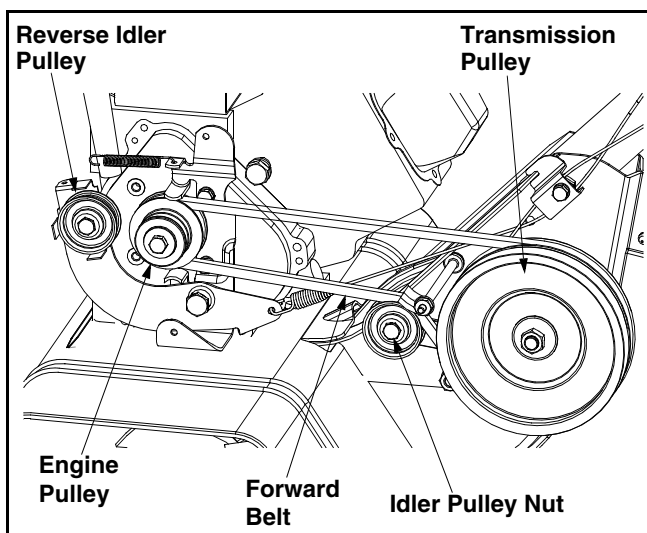

Figure 16
- Push reverse idler pulley bracket forward, and remove engine pulley and belt. See Figure 16.